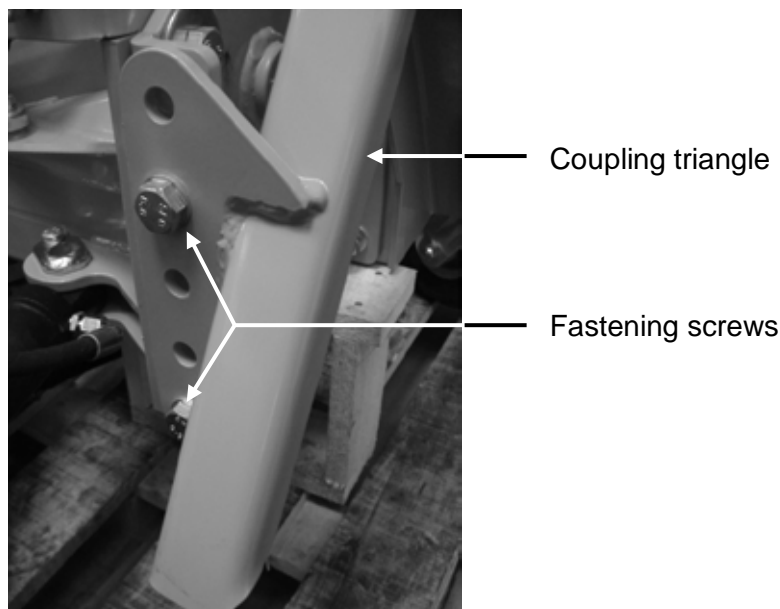

Fig. 1: Height adjustment of the coupling triangle
4. Unscrew the fastening screws (see Fig. 1).